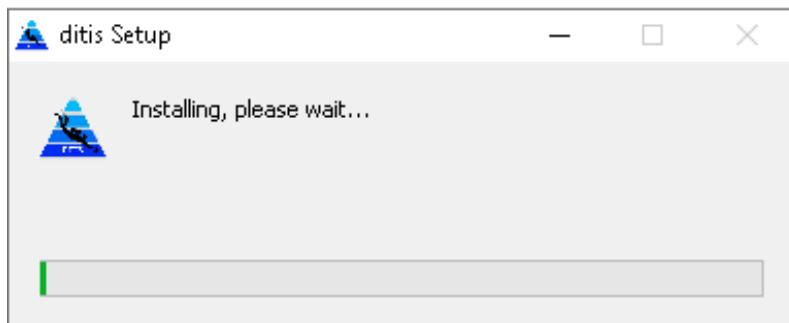

Figure 1: DITIS Setup
2. The installer will start automatically, as shown in Figure 1